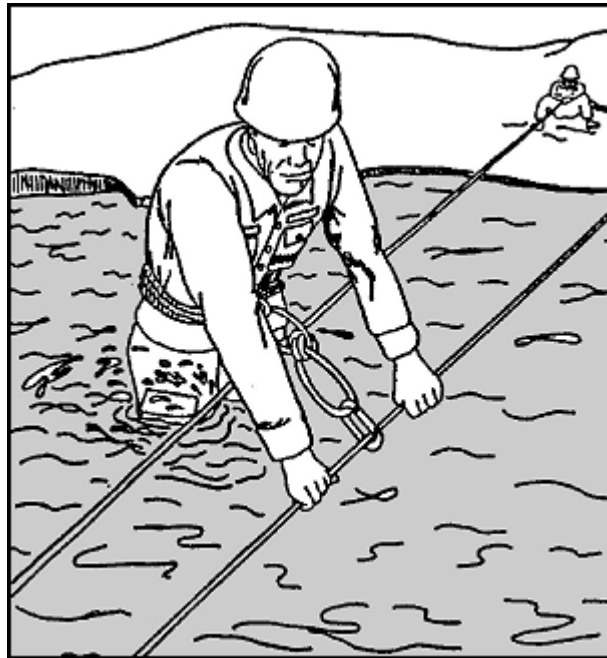

Figure 9-4. Stream crossing using a handline.
(1) The individual may attach the belay rope to his seat harness or a swami belt with a carabiner. He should NEVER tie directly into the rope when being belayed for a stream crossing. If the swimmer should be swept away and become tangled, he must be able to release himself quickly from the rope and swim to shore as best he can. The individual may also choose to tie a fixed loop into the end of the belay rope and hang on to it, where he can immediately release it in an emergency.
(2) Anytime a crossing site must be used where the swimmer may encounter problems getting to the far bank, he should have on a life vest or other personal flotation device (PFD). If the swimmer must release the rope at any time, he will have to rely on his own water survival skills and swimming ability to get to shore. A PFD will greatly increase his own personal safety. A PFD may also be used by the last man across, as he will release the rope from the anchor and be belayed across as the first man
b. **Installation of a Handline.** If it is possible to use a rope high enough above the water to enable soldiers to perform a dry crossing, then a rope bridge should be installed as such. If this is impossible, and the rope must be installed to assist in a wet crossing, then it should be installed as a handline (Figure 9-4).